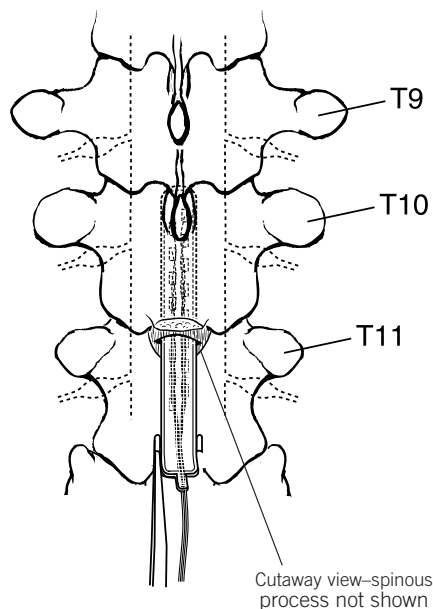

FIGURE 3
5. Grasp the lead with rubber-tipped forceps, and pass it through the opening in the ligament, ensuring that the electrodes face the dura (see Figure 3).